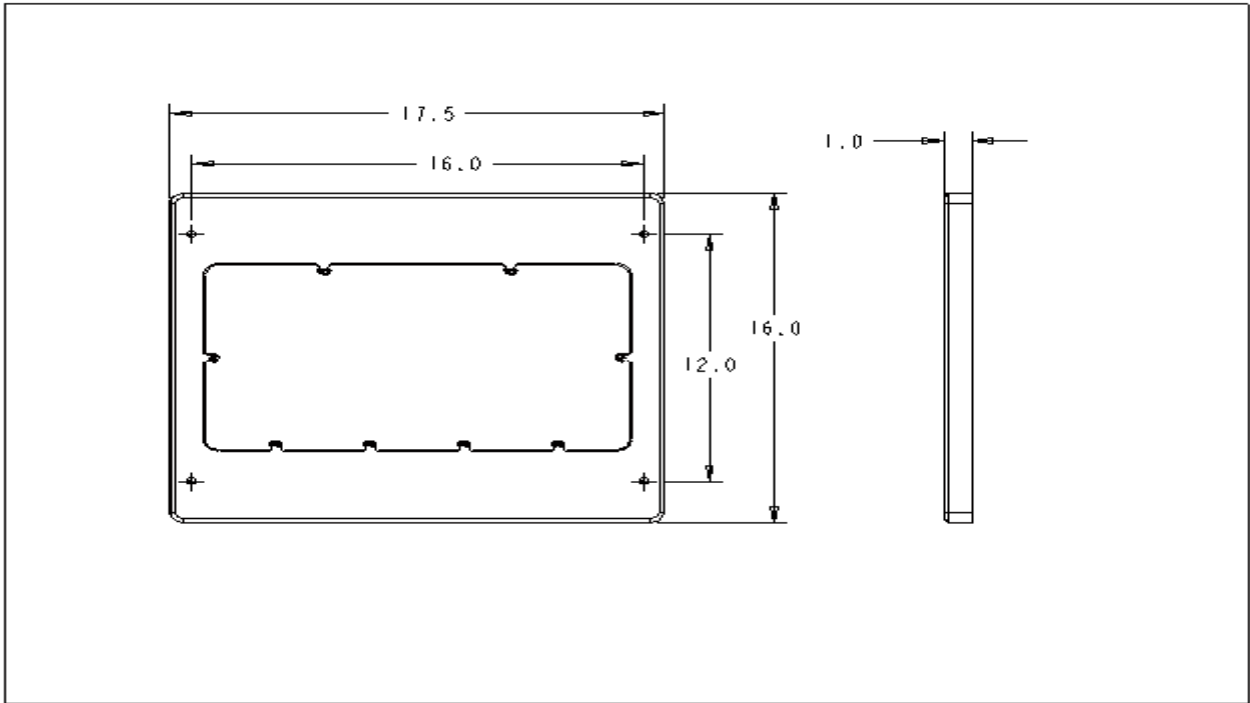

Figure 8, 3-Module, Universal retrofit Panel
3.3.1.1 The first universal wall plate (Figure 8) is 17.5 inches long, 16.0 inches tall, and is used to adapt the 3-module Front Panel to the 3-module Universal Wall Plate.